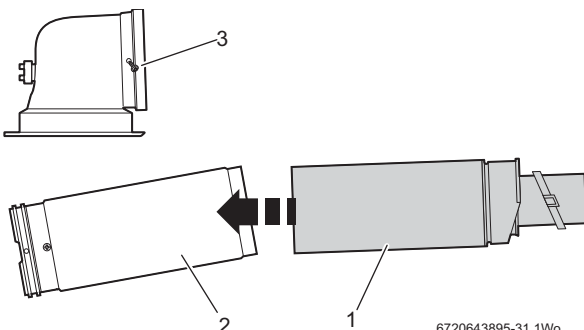

Fig. 39 Reducing the standard terminal
- ▶ If the required length is less than 350mm the standard telescopic flue can be modified, refer to fig. 39.